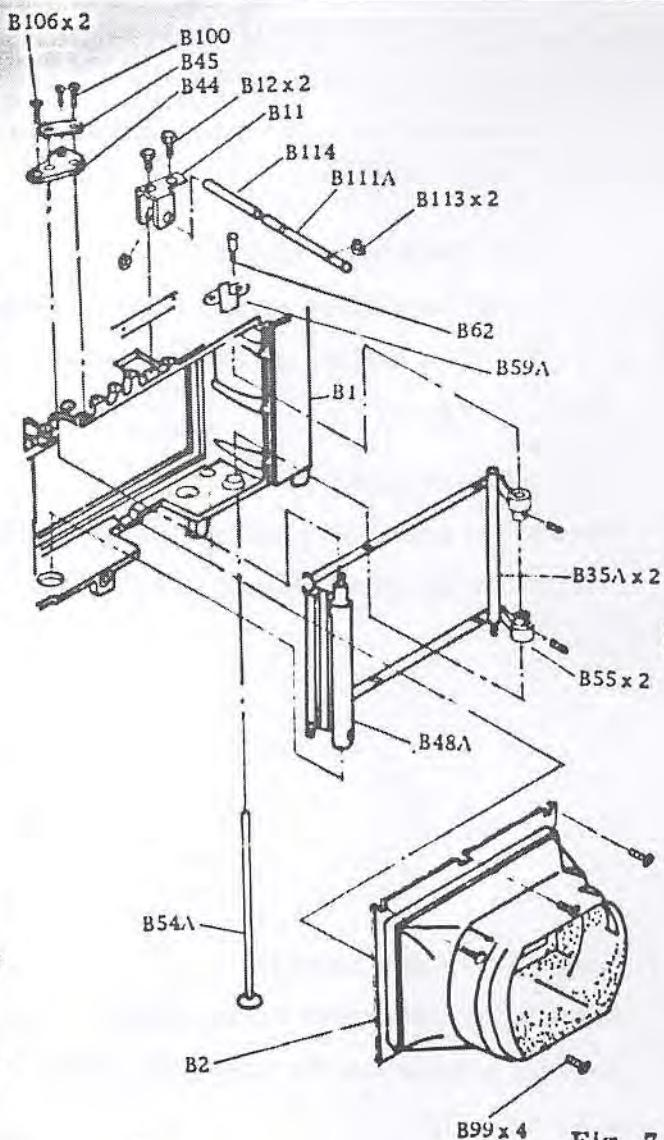

Fig. 7
- A. Peel off a part of the Moltiplene (B110) at the upper side, and remove the light shielding hood installation screws (B99, 4 each). Remove the edge installation screws (B12, 2 each), and set free the edge (B11). (Fig. 7)
- B. E-clips (B113, 2 each) are installed on the range finder interlock rod (B111A). Remove the rear E-clip (B113), withdraw the range finder interlock rod (B111A) forward, with attention paid on the spring (B114), and remove the light shielding hood. (Fig. 7)
- C. Remove the set screw (B100), and holding down the control lever (B45), turn the lever slowly to the left to release the spring from the tension. (Fig. 7)
- D. Remove the set screw (B62) and signal lever (B59A), and loosen the shielding curtain installation collar (B53) set screws (B55, 2 each). Next, remove the shaft (B54) downward and remove the guide rollers (B35 and B36) from the openings on the body top. (Fig. 7 and 8)
- E. Remove the set screws (B106, 2 each), and remove the light shielding curtain (B48A) and the light shielding curtain shaft holder (B44). (Fig. 7)